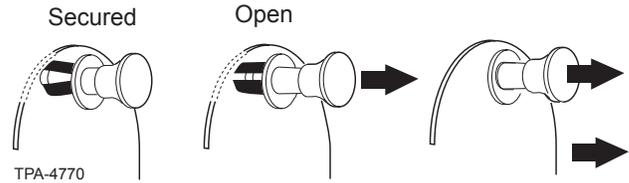

Figure 2
Step 1: Remove a blank panel by pulling out both of the plungers of the panel's push/pull fasteners (Figure 2).